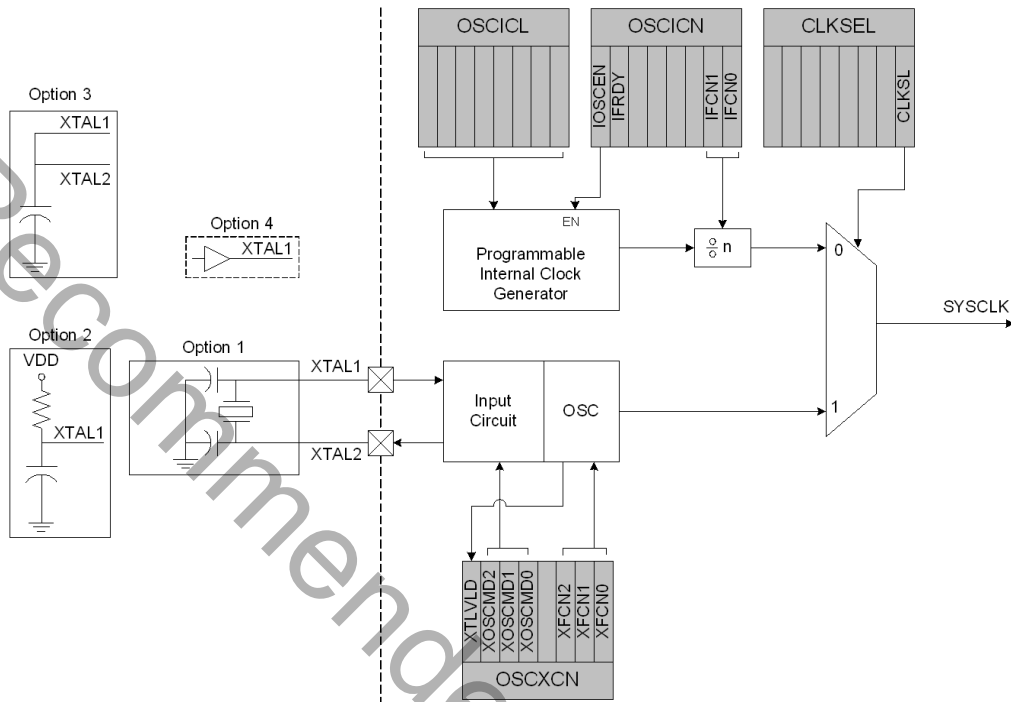

Figure 14.1. Oscillator Diagram
The external oscillator circuit may drive an external crystal, ceramic resonator, capacitor, or RC network. A CMOS clock may also provide a clock input. For a crystal or ceramic resonator configuration, the crystal/resonator must be wired across the XTAL1 and XTAL2 pins as shown in Option 1 of Figure 14.1. In RC, capacitor, or CMOS clock configuration, the clock source should be wired to the XTAL2 and/or XTAL1 pin(s) as shown in Option 2, 3, or 4 of Figure 14.1. The type of external oscillator must be selected in the OSCXCN register, and the frequency control bits (XFCN) must be selected appropriately (see SFR Definition 14.4).
**CRYSTAL MODE** (Circuit from Figure 14.1, Option 1; XOSCMD = 11x)
**RC MODE** (Circuit from Figure 14.1, Option 2; XOSCMD = 10x)
**C MODE** (Circuit from Figure 14.1, Option 3; XOSCMD = 10x)
If a crystal or ceramic resonator is used as an external oscillator source for the MCU, the circuit should be configured as shown in Figure 14.1, Option 1. The External Oscillator Frequency Control value (XFCN) should be chosen from the Crystal column of the table in SFR Definition 14.4 (OSCXCN register). For example, an 11.0592 MHz crystal requires an XFCN setting of 111b.